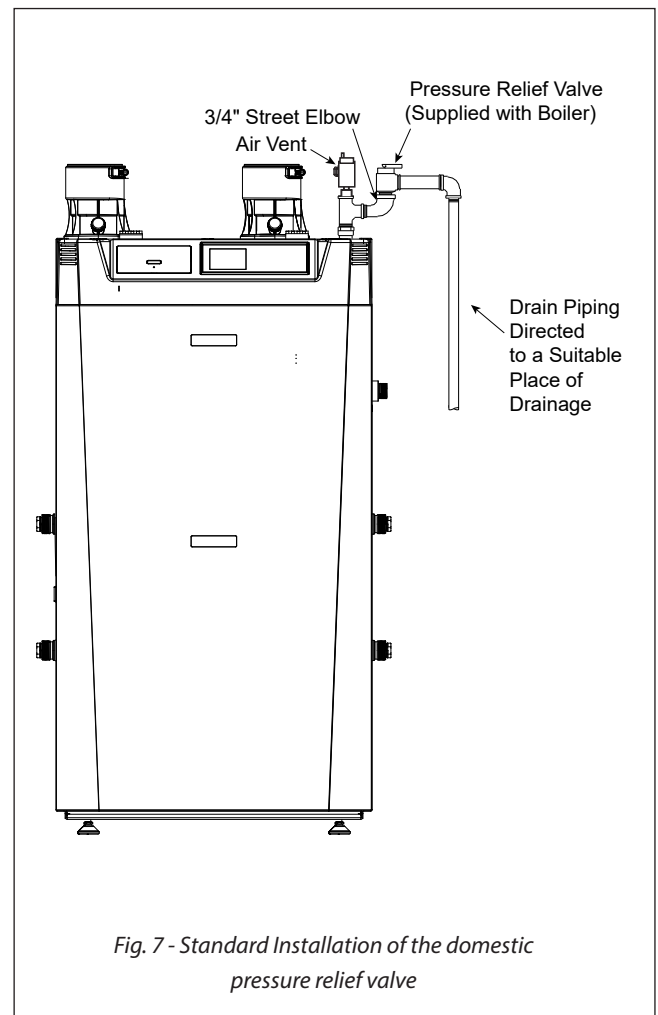

Fig. 7 - Standard Installation of the domestic pressure relief valve
1. The INSTINCT is supplied with a 30 psi pressure relief valve and must be piped using the PRV connection as shown in *Fig. 7 below*.